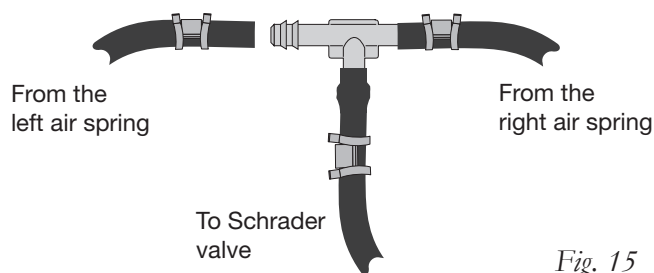
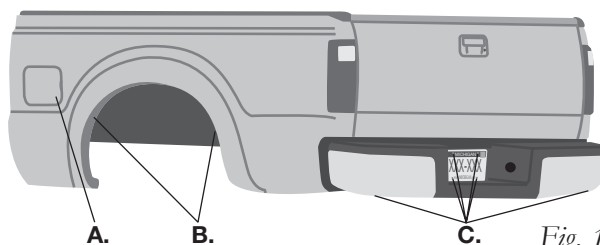

Fig. 15
Fig. 16
4. Use this procedure (Fig. 15) for all air line connections:
- a. Slide the air line clamp (F) onto the air line.
5. Select a location for the Schrader valve (M), ensuring that the valve will be protected and accessible with an air hose (Fig. 16). Drill a 5/16" (8mm) hole, if necessary. Determine and cut adequate length of air line to reach from the tee to the Schrader valve or from the air springs to the valve if using a dual-path installation.